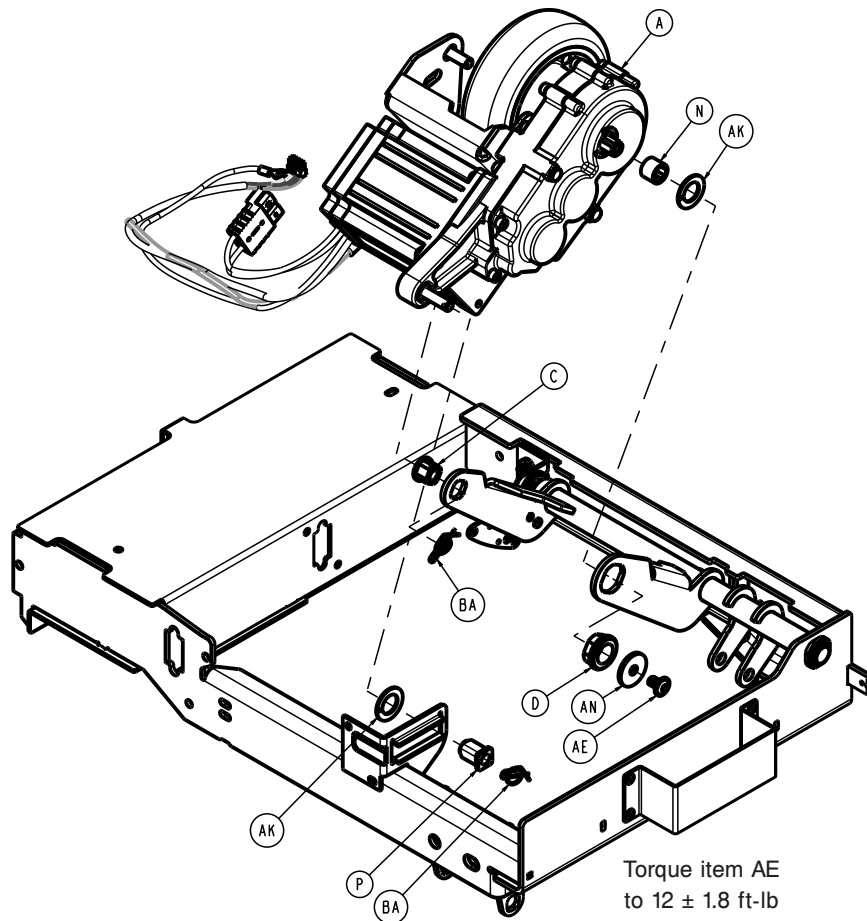

Figure 70 – Removing the Zoom motor/wheel assembly
12. Lift up on the actuator spring cartridge and using a T27 Torx driver, remove the screw (AE), washer (AN), and bushing (D) that secure the motor/wheel assembly (A) to the crank weldment (Figure 70). Save the screw, washer, and bushing.
- 13. Using needle nose pliers, remove the rue ring cotter (BA) from the motor/wheel assembly (A) (Figure 70). Save the rue ring cotter.
- 14. Using diagonal pliers, cut the two cable ties (BC) that secure the motor cables to the frame weldment.